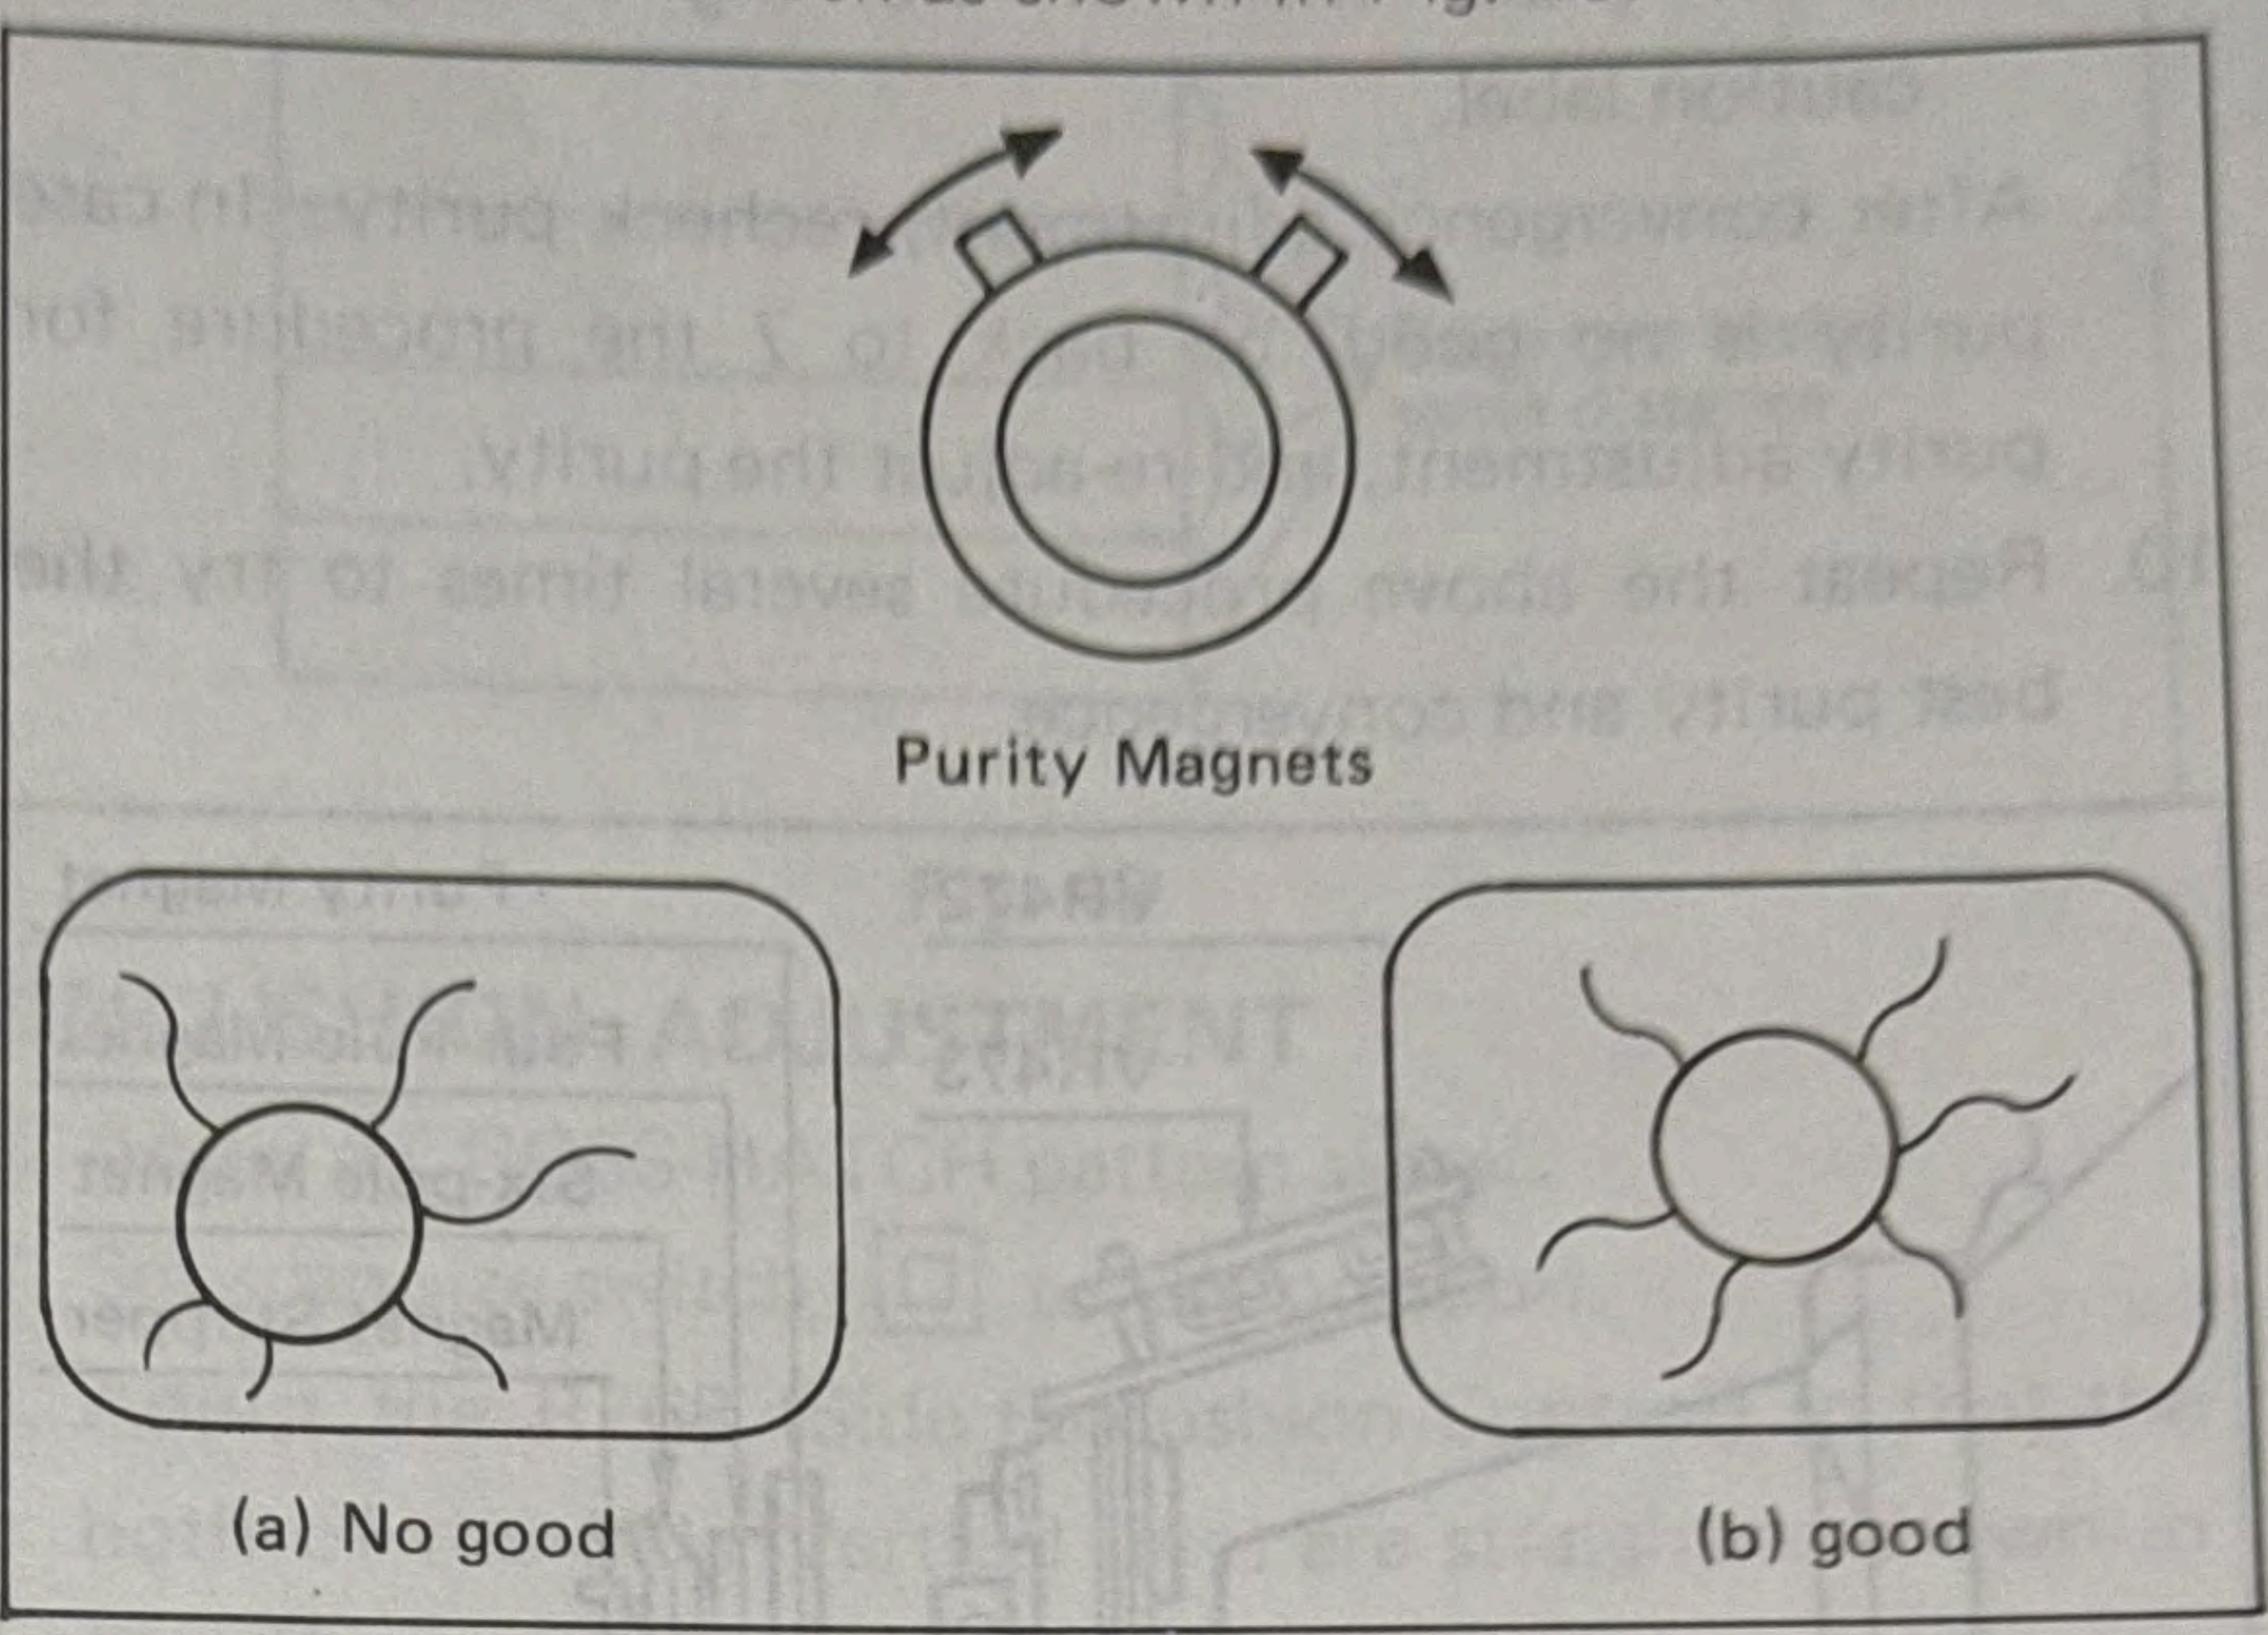

Fig. 43
- Remove the silicone sealer and adjust the purity magnets so that a green circle field is obtained at the center of the screen as shown in Fig. 43.